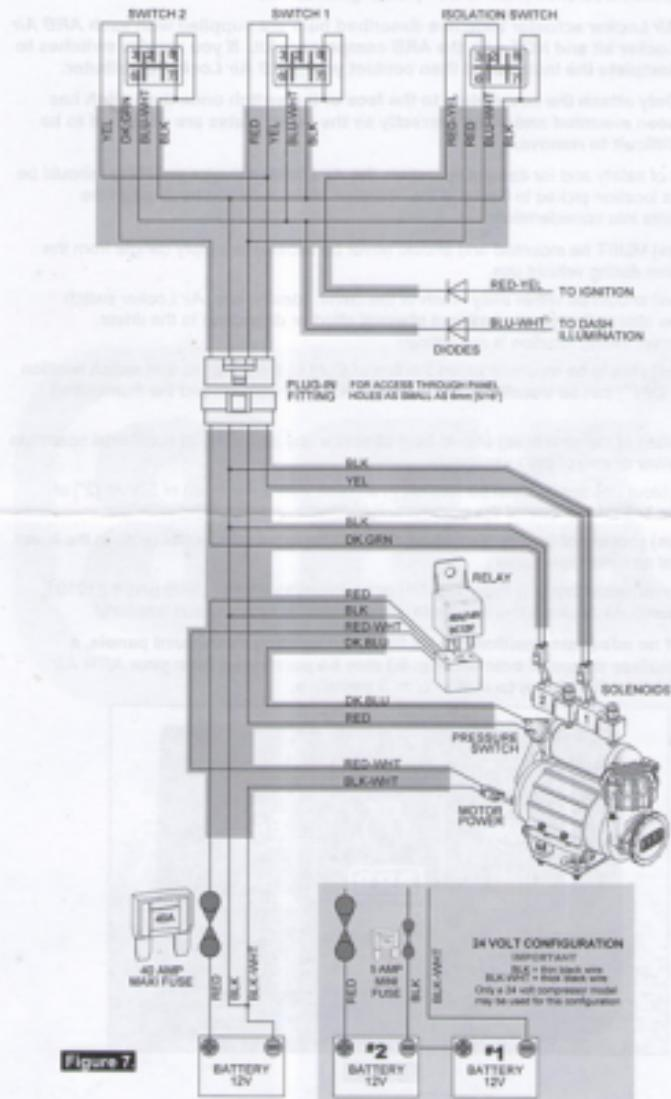
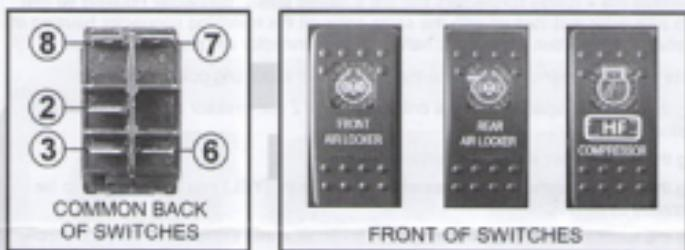

Figure 7
Figure 8
When wiring an HF compressor switch, Air Locker pressure switch, Air Locker actuator switch(es) and Air Locker solenoid(s) to an HF Air Compressor, all connections can easily be set up using only the supplied wiring loom f HF #180409 shown in Figure 7.)
- Consulting the wiring diagram (Fig.7.) for wire colors, and the switch terminal illustration (Fig.8.), plug each of the female spade terminals onto their appropriate switch terminal.
NOTE : In a 12V system the 2 black wires (BLK and BLK-WHT) will be joined together, so they may be crimped together into the same yellow eye terminal if desired. Refer to wiring diagram in Fig 7.
- Identify which battery in the system will be used as the 24V negative (-) terminal (i.e., Battery #1 in the wiring diagram Fig. 7.) by connecting a multimeter across the positive (+) terminal of one battery to the negative (-) terminal of the other battery. If you have tested the correct negative (-) terminal then you will read approximately 24 volts on the multimeter, and this battery will be battery #1, and the other battery with the positive (+) terminal you have just tested will be battery #2 (refer to wiring diagram Fig. 7.).
NOTE : Double check that the connections match the wiring diagram (Fig 7.). Accidentally reversing the 2 black wires will cause damage to the compressor kit.
The following describes an effective procedure for tracing an electrical fault in a CKMA12 or CKMA24 compressor which has been wired using a genuine, *HF* wiring loom (refer to the diagram in Figure 7.). All steps must be performed in the order listed here for an accurate assessment.